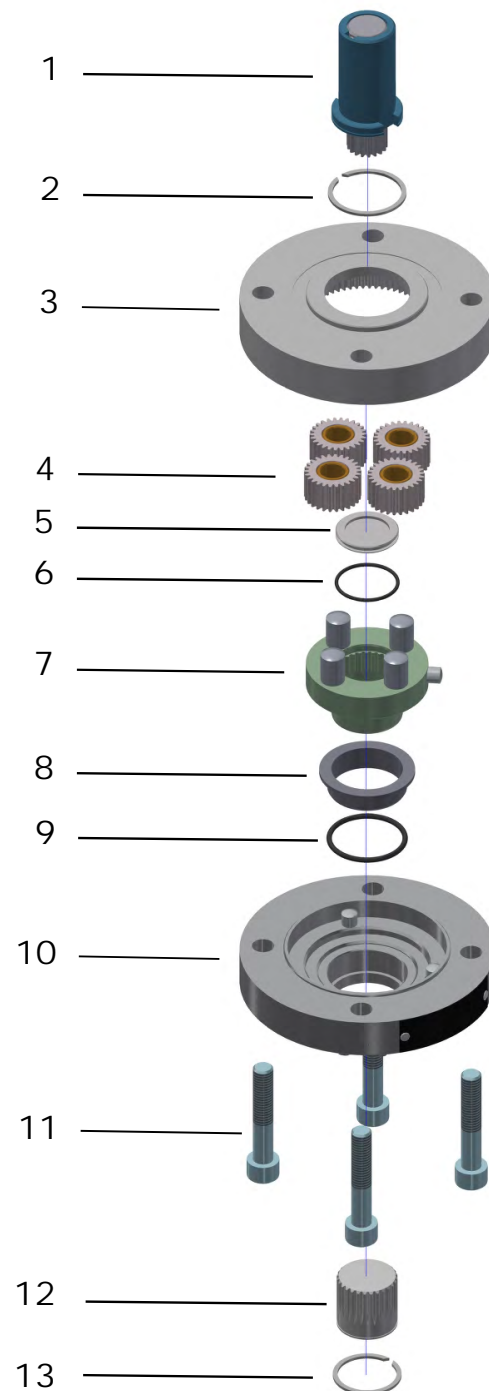
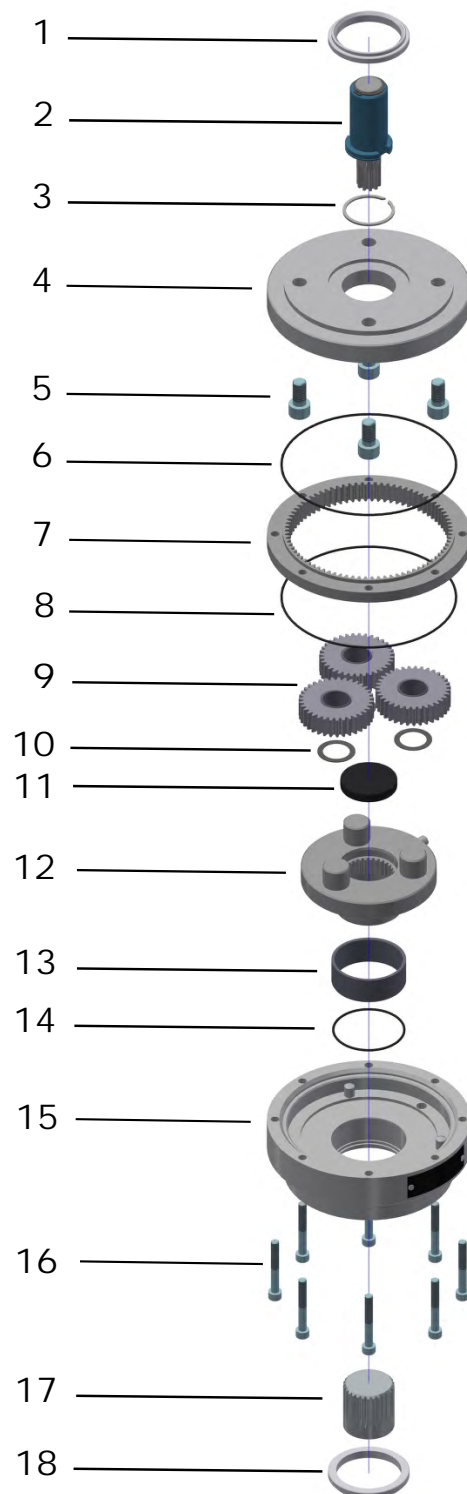
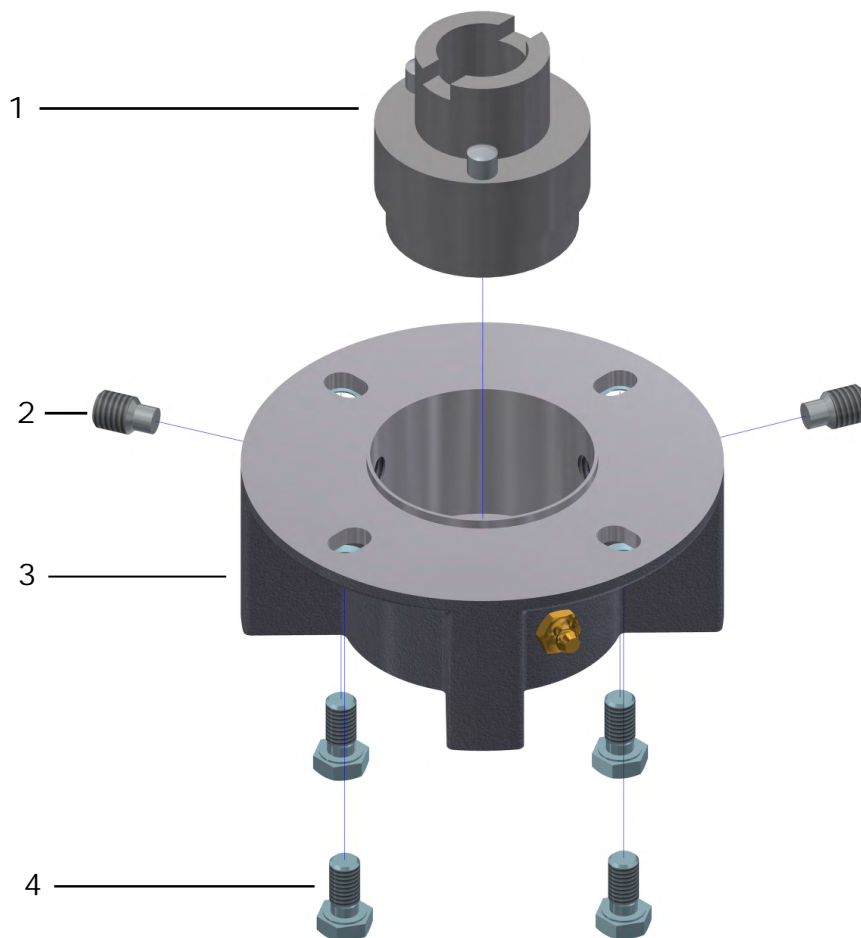

Figure 1: Exploded view QT12
Figure 2: Exploded view QT25, QT50
Figure 3: Exploded view QT3/QT6
Figure 1 and Figure 2 show the exploded images of QT12, QT25 and QT50 gears. Apart from the technical data, the two types of gears differ in the way that the QT25 and QT50 gearbox uses an additional adapter. Figure 3 shows the exploded image for gears of type QT3/QT6.
2. Insert the drive sleeve according Figure 3 in the output flange. If necessary, rotate it that one of the drive sleeve stops is between the 90° offset of the holes for the flange stops.
The following procedure has to be observed, the assignment of the components can be found in the Figures 1 and 2: